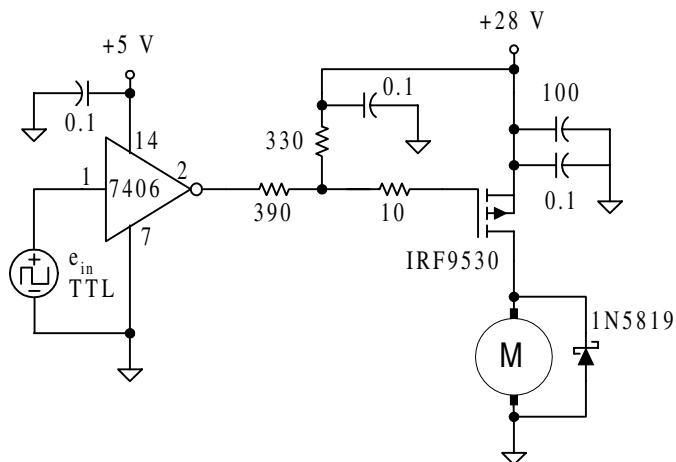

Figure 6-37 P-channel high side switch
1. Build the circuit in Figure 6-37. Although the schematic does not specifically show how, be sure to provide separate common returns for the logic, the motor, and the decoupling capacitors.